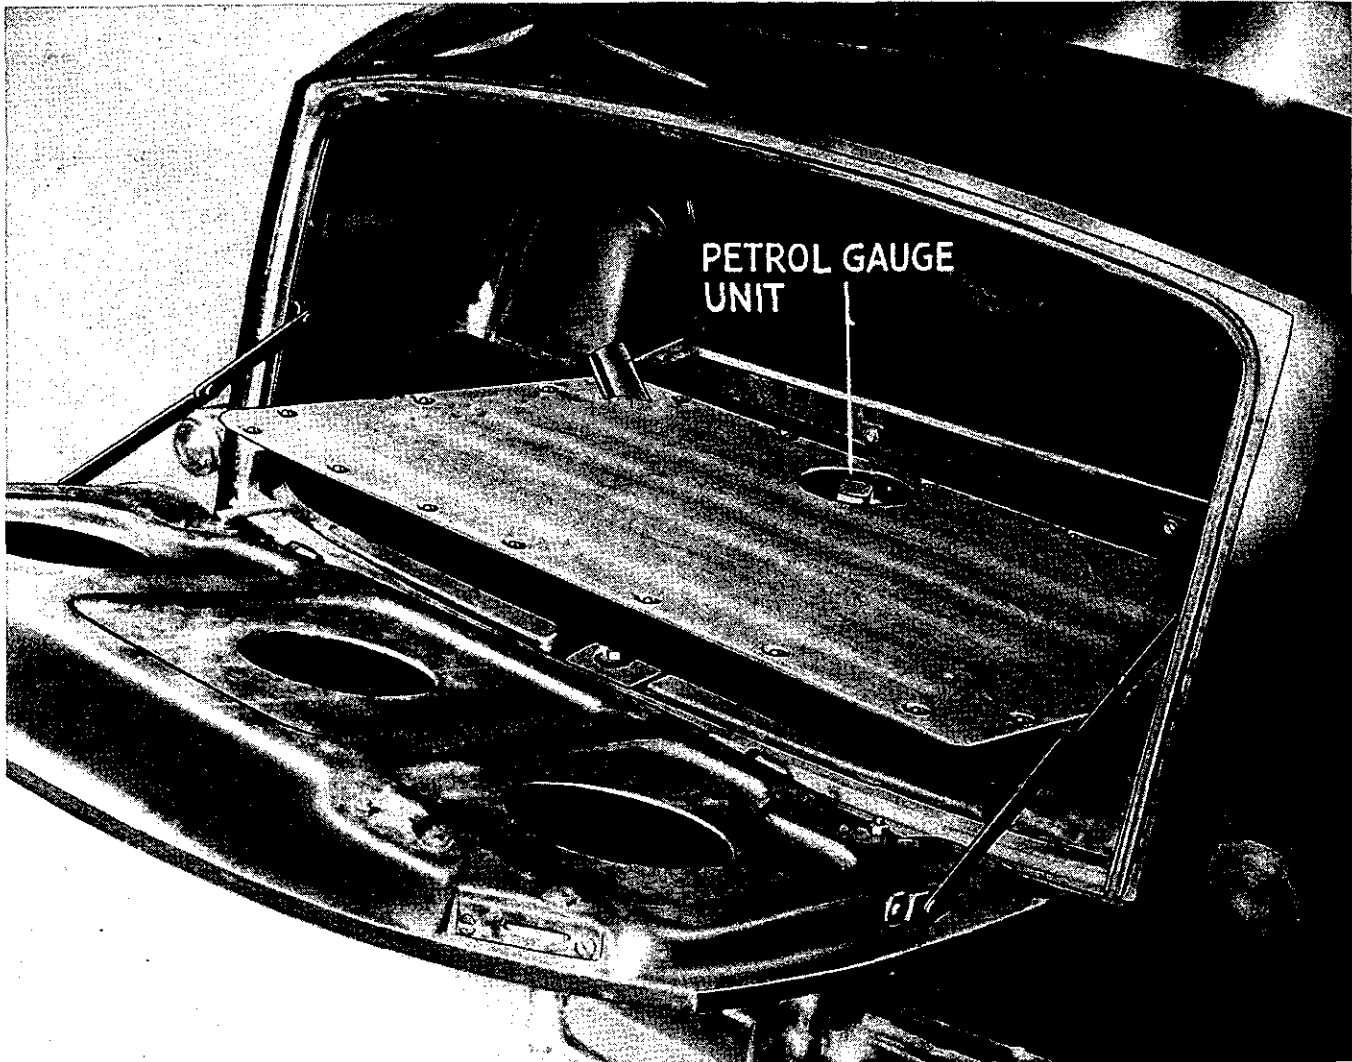

Fig. 8. Showing petrol tank partially removed
7. Remove eighteen  $\frac{7}{16}$ " A/F headed setscrews which secure tank to body and raise rear of tank, as shown in Fig. 8, and remove over the boot lid.